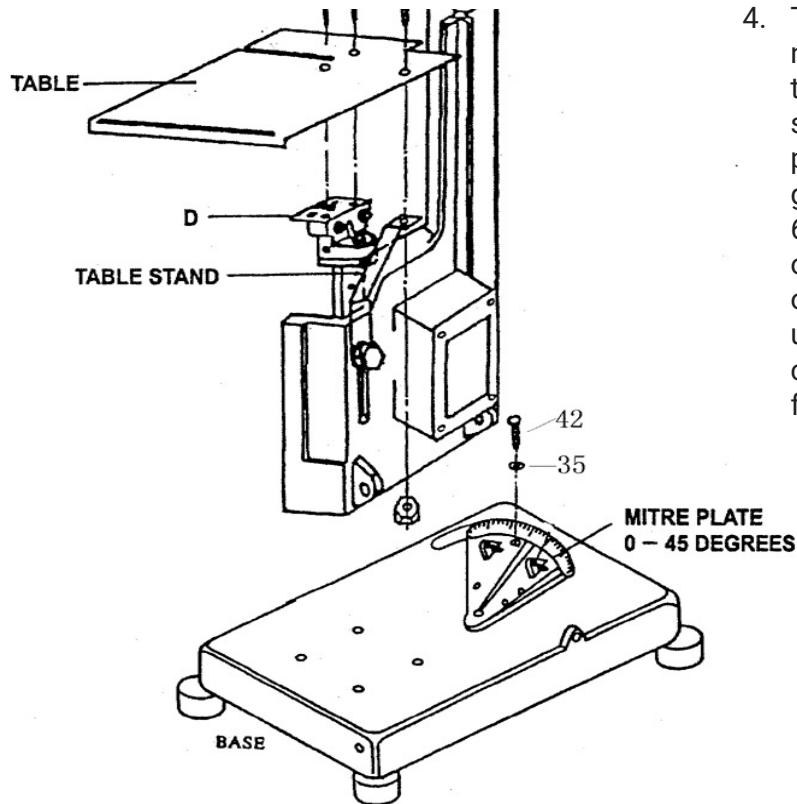

Fig 6
5. If you want to cut the workpiece at any angle between 0 and 45 degrees, loosen the screws (Fig. 6, Item 42), turn the saw head in line with the angle measured on the mitre plate (parts list, item W7), tighten the screws (Fig. 6, Item 42) to the required position, then repeat steps 1 to 4.
Installing the table (see Fig 6):
1. Loosen the A & B screws from the blade guide. Now remove plate D and mount the table stand as shown in the above image Fig.6.